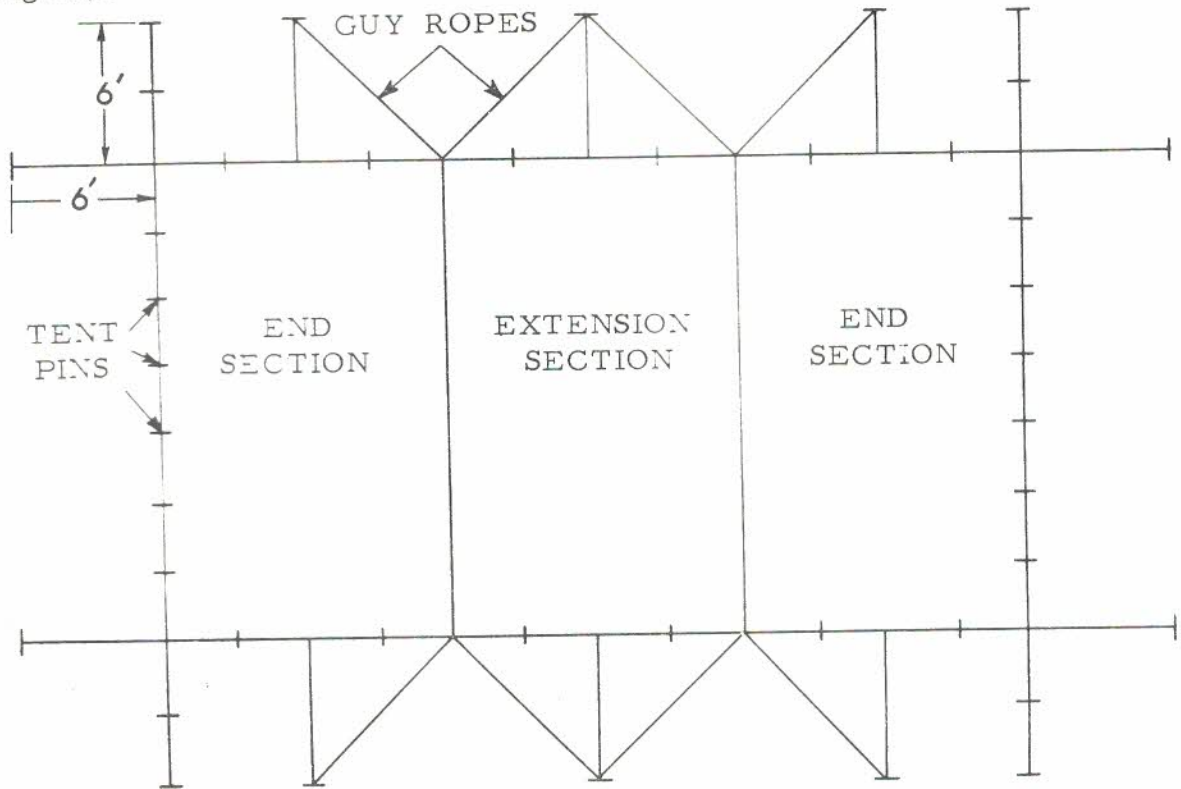

FIG 29 - PIN POSITIONS AND GUY ROPE LAYOUT
57. Line up the wall supports lengthwise on both sides; drive in the tent pins as in Fig 29, and secure the guy ropes. Starting from one end work down both sides simultaneously, (layout of the guy ropes is shown in Fig 29).